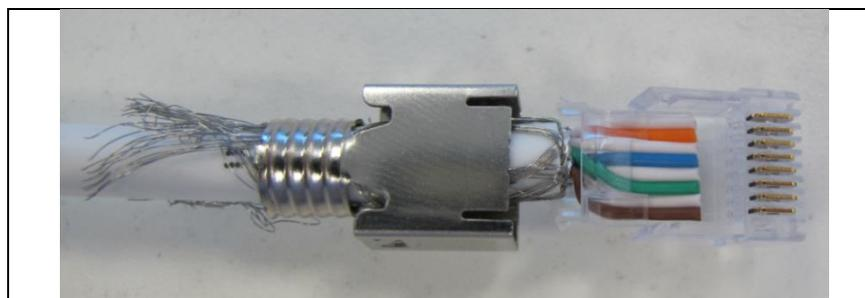

Figure 9. Insert Wire Holder into Plug Housing
6. Insert the front of the wire holder and the ends of the conductors into the cavity of the plug housing. See Figure 9.